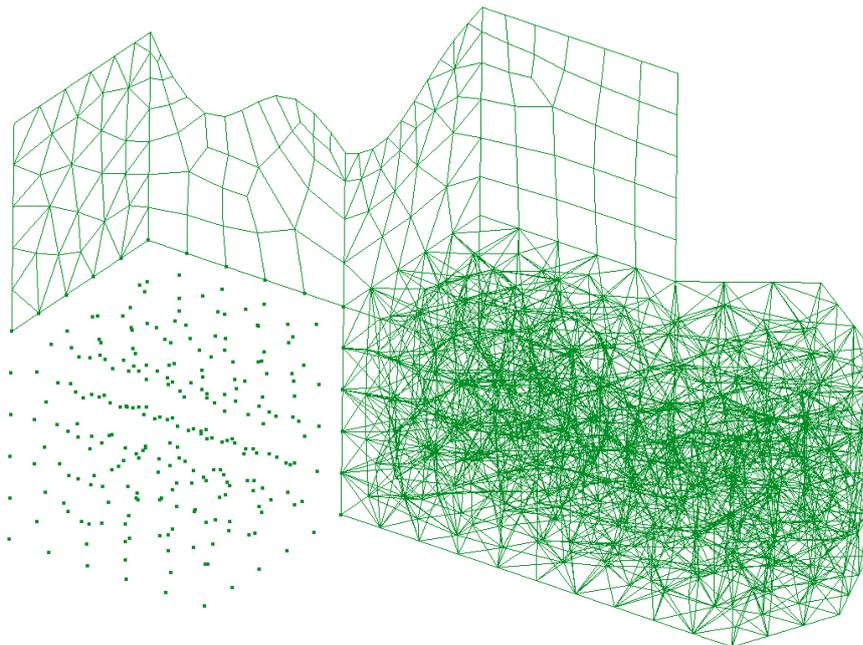

Figure 6. An unstructured mesh generated using quadrilaterals.
- 4 . Another window appears in which the maximum element size can be entered. Leave the default value unaltered and click **OK**. The result will be the mesh illustrated in Figure 6.